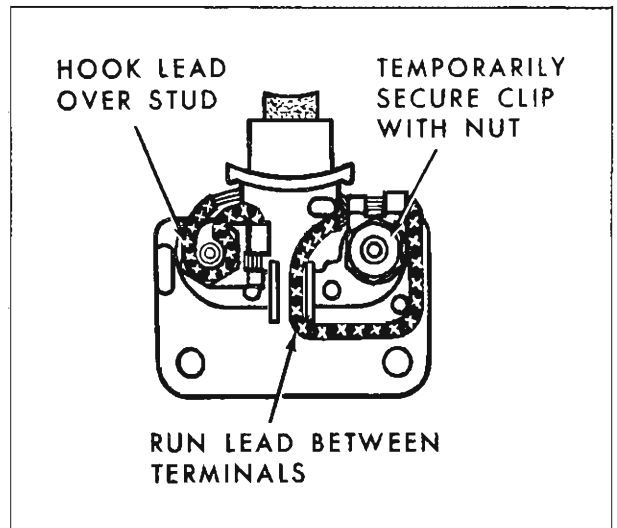

Fig. 18c—Brush Lead Arrangement during Assembly
3. To install brushes, push brushes into holder and secure leads as shown in Figure 18c to keep the brushes in holder.